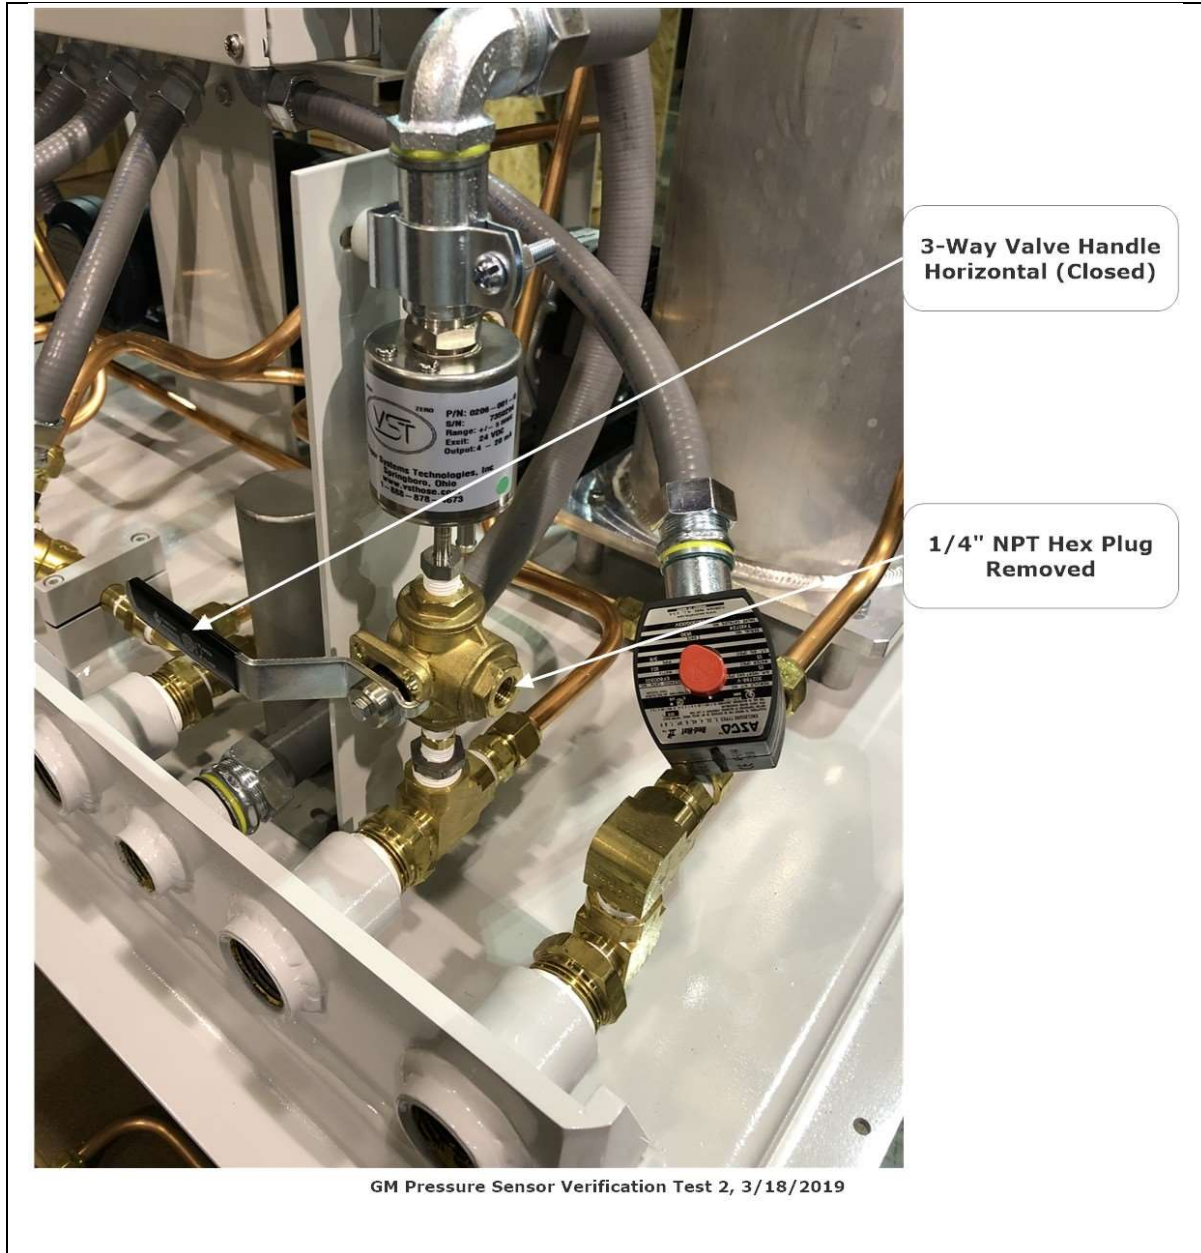

Figure 7-9: Pressure Sensor & 3-Way Valve, TEST Position
5. Remove the ¼" NPT Hex Plug from the side of the 3-way ball valve. **See Figure 7-9.**